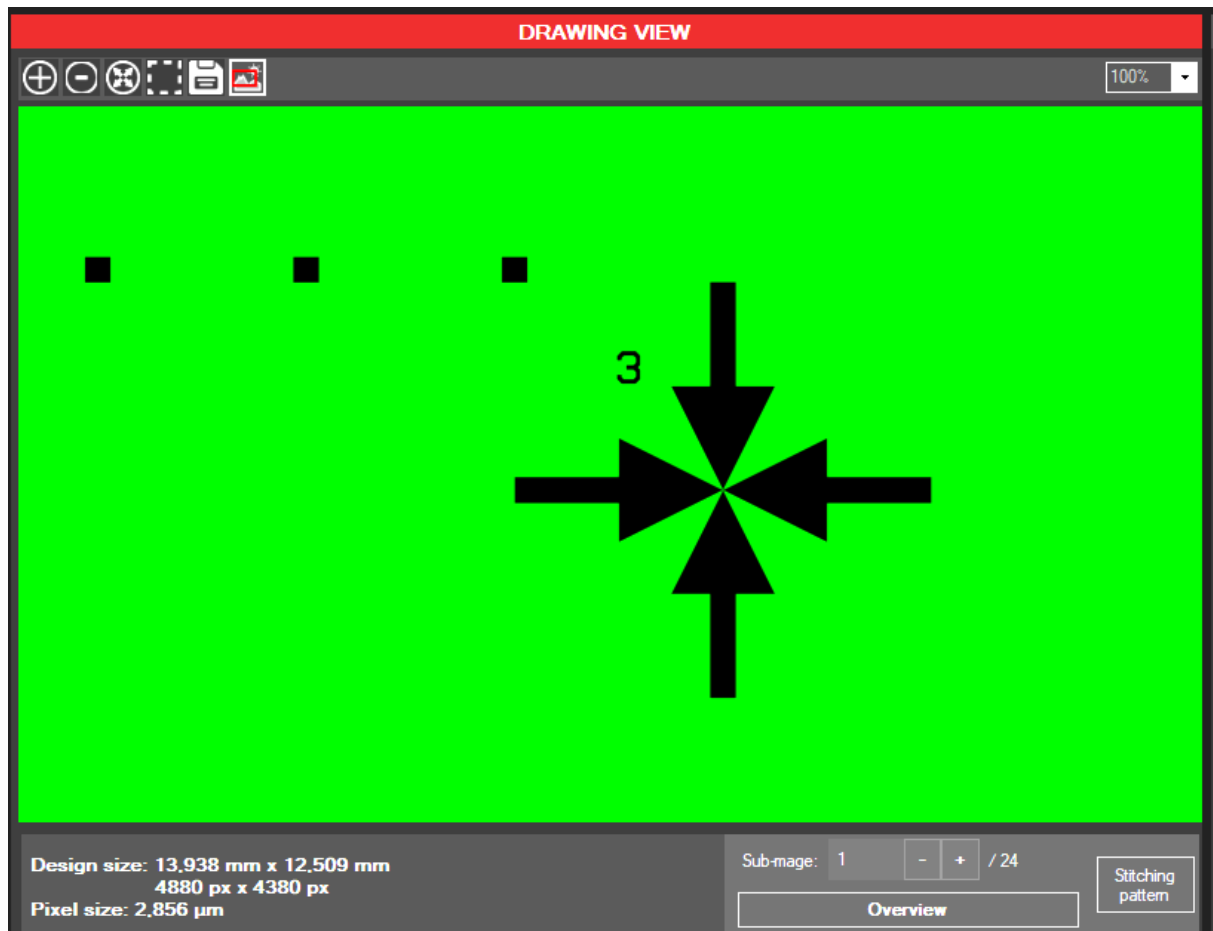

Figure 55 - Semi-auto alignment: defining point P1
- Selection of point P1 (Figure 52c): click on **Overlay pos. P1**. The mouse cursor will change to a cross. On the drawing viewer, select the point you want to align with P1' as shown in Figure 55